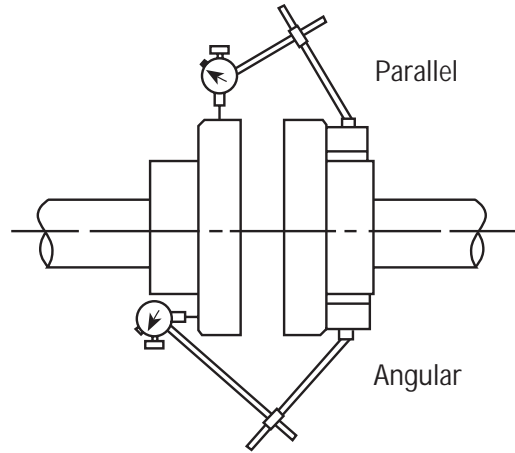

Figure 6
• Alignment **MUST** be checked prior to running. See Figure 6.